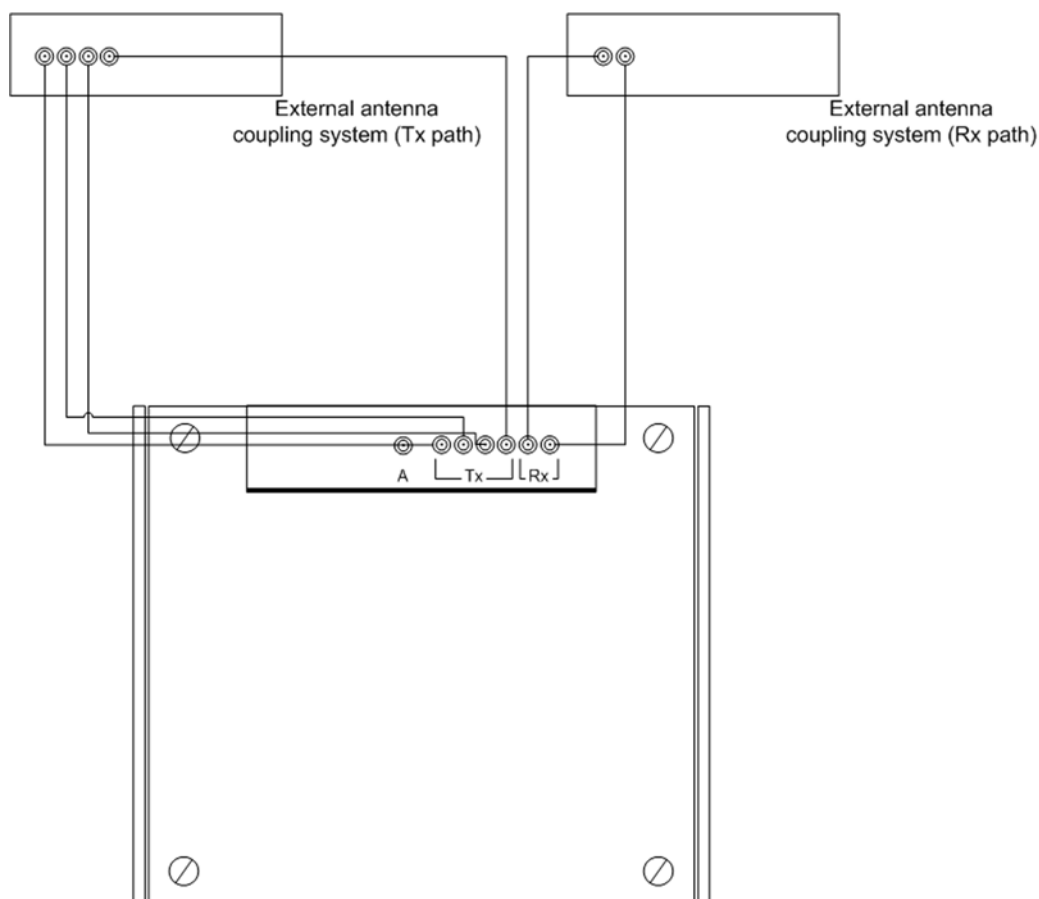

Figure 5.23 Connection of an external antenna coupling system
Figure 5.23 shows by way of an example the connection of an external antenna coupling system to the FlexibleTx variant of the DIB-500 R4.1. The connections of external antenna coupling systems to the DIB-500 R4.1 and to the antenna(s) are to be defined to match the project.
- Connect the external antenna coupling system to the upper side of the equipment rack, see Figure 5.23 on page 121.